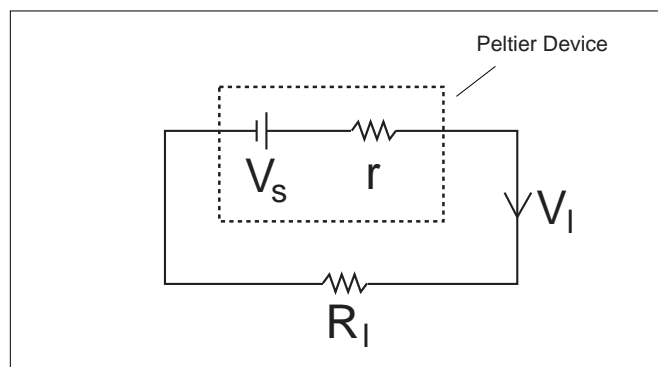
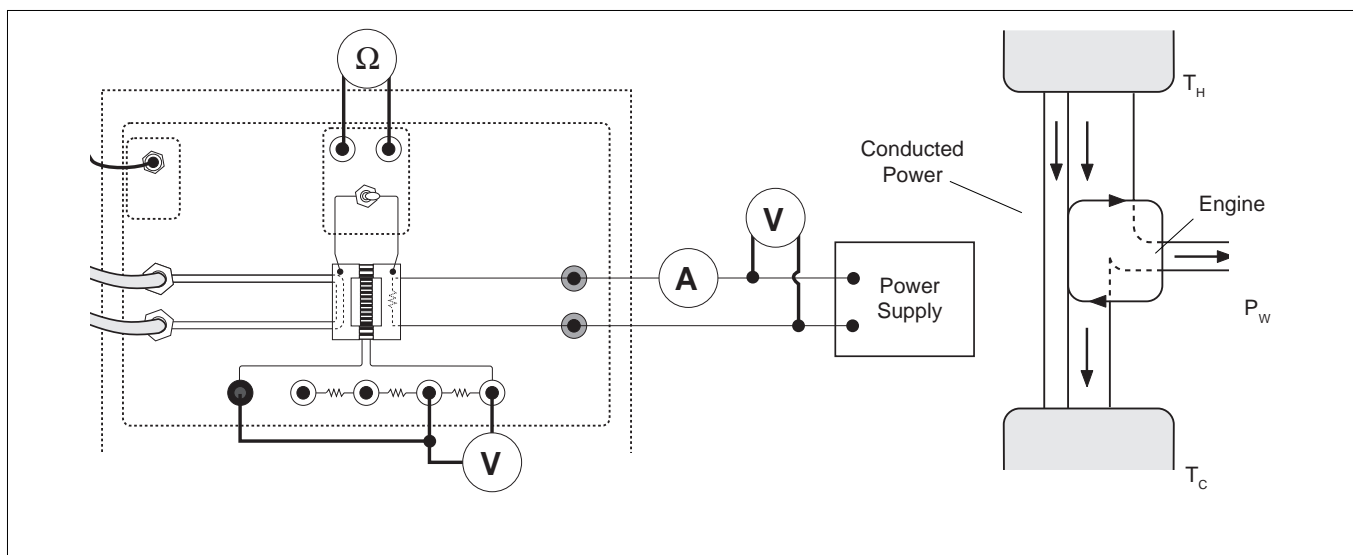
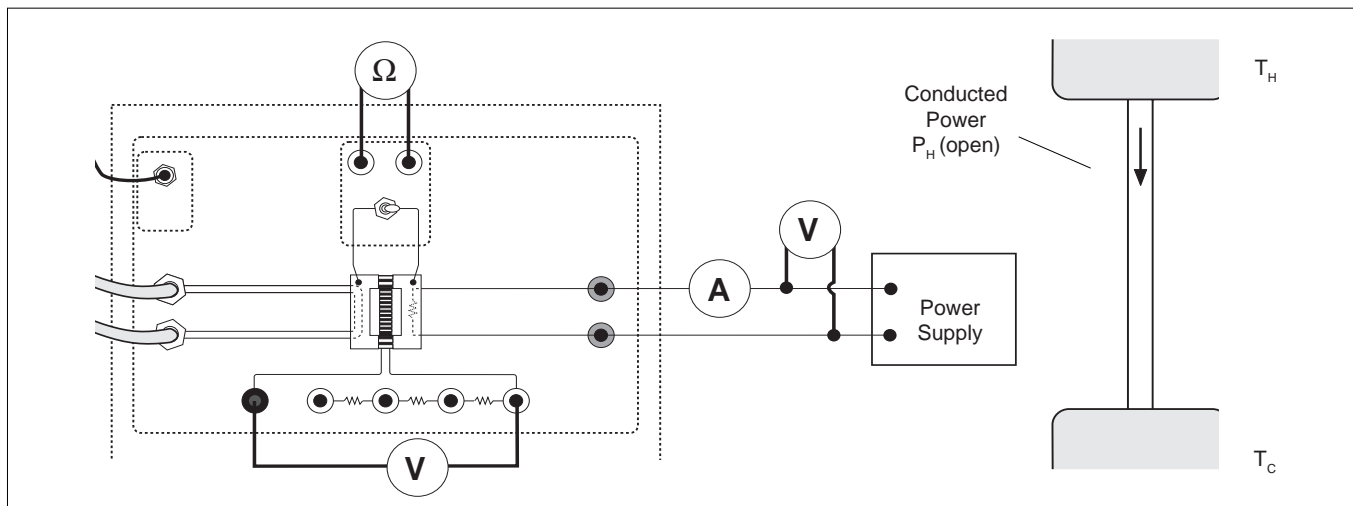
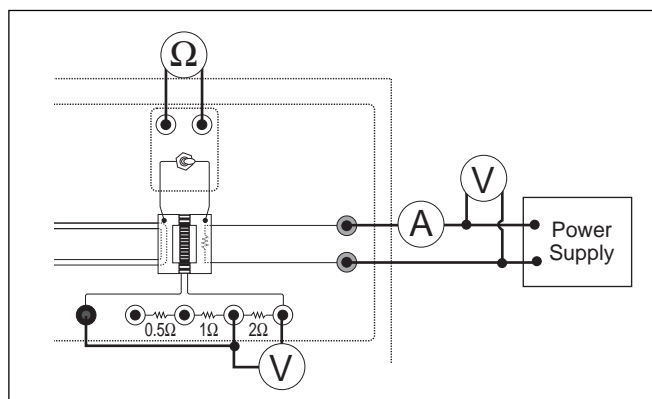

Figure 5: Procedure for Finding Internal Resistance
Figure 6: Heat Engine With A Load
Figure 7: No Load
Figure 2.1
First run the Thermal Efficiency Apparatus with a load resistor ( $R$ ) as in figure 6. The electrical equivalent of this setup is shown in figure 5. Kirchhoff's Loop Rule gives
Next, run the Thermal Efficiency Apparatus with no load, as in Figure 7. Since there is no current flowing through the internal resistance of the Peltier Device, the voltage drop across the internal resistance is zero and the voltage measured will just be  $V_S$ .
The Thermal Efficiency Apparatus is run with a load connected to measure  $P_H$  (Figure 6) and then the load is disconnected and the power input into the hot reservoir is adjusted to maintain the temperatures (less power is needed when there is no load since less heat is being drawn from the hot reservoir). See Figure 7.  $P_{H(\text{open})}$  is the power input
The work can be measured directly but the heat delivered to the hot reservoir has to be measured indirectly. Notice that when the heat pump is operating, the temperature of the hot reservoir remains constant. Therefore, the hot reservoir must be in equilibrium and the heat delivered to it must equal the heat being conducted and radiated away. So a measurement of the heat conducted and radiated away at a given temperature difference will also be a measurement of the heat delivered to the hot reservoir. The heat conducted and radiated is measured by running the device with no load and measuring the heat input needed to maintain the temperature of the hot side (Figure 7).
- B. Connect the  $2\Omega$  load resistor with a short patch cord as shown in Figure 2.1. Connect a voltmeter across the load resistor.
② Open
- A. Disconnect the patch cord from the load resistor so no current is flowing through the load and thus no work is being done. Now all the power delivered to the heating resistor is either conducted to the cold side or radiated away. Leave the voltmeter attached so that the Seebeck voltage ( $V_S$ ) can be measured. (see figure 7)